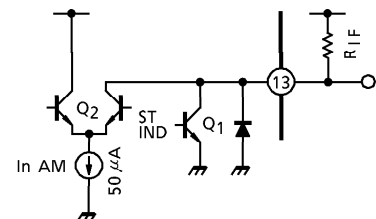

Fig.5 Internal circuit of pin⑬
- The terminal of pin⑬ is built in stereo indicator function and modulated AM IF signal output. In AM mode, R_{IF} ($3k\Omega$ or less) should be connected between V_{CC} and pin⑬, or pin⑬ should be connected to V_{CC} directly. (Fig.5) In case that $R_{IF} > 3k\Omega$ or pin⑬ is opened, this IC doesn't operate normally in AM mode. Because transistor Q_2 is saturated.